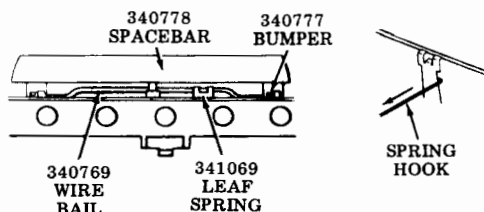

Fig. 1—Leaf Spring Disengagement
- (a) Disengage the leaf spring (bronze colored) from the wire bail using a spring hook and pull toward the front (Fig. 1).